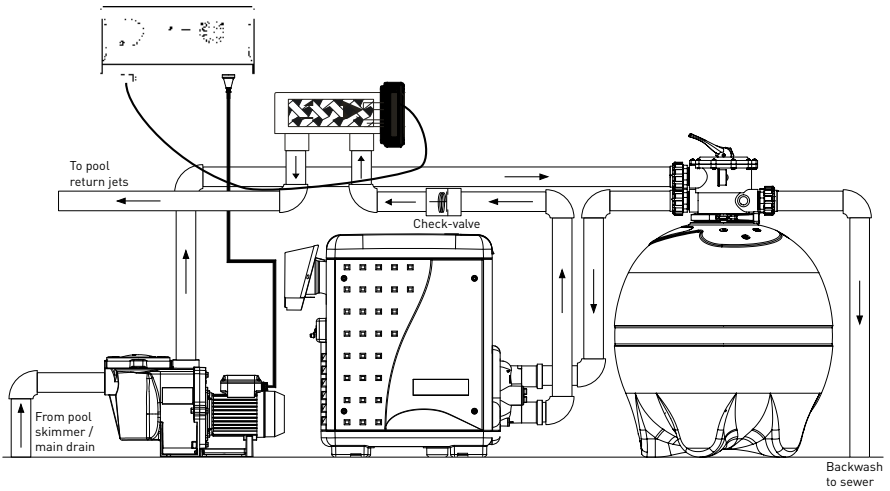

Fig.3
3. High Salt Light Illuminated - This light is a red warning indicator and will illuminate when the swimming pool salinity level is above 6,000ppm. If this light is on, together with the ten output LEDs (1 in Fig. 3), the salinity level is higher than necessary. The salt chlorinator will continue to function at this level, however it is recommended that the salt level in the pool be reduced to ensure there is no damage to other pool equipment. Verify the salt level with a water test and reduce the salt level by sending some pool water to waste and topping up with fresh water.
High Salt Light Flashing - If this light is flashing, without the output LEDs (1 in Fig. 3), the salinity level is extremely high. The salt chlorinator will turn off output. The salt level in the pool must be reduced to ensure there is no damage to the salt chlorinator or other pool equipment. Verify the salt level with a water test and reduce the salt level by sending some pool water to waste and topping up with fresh water.